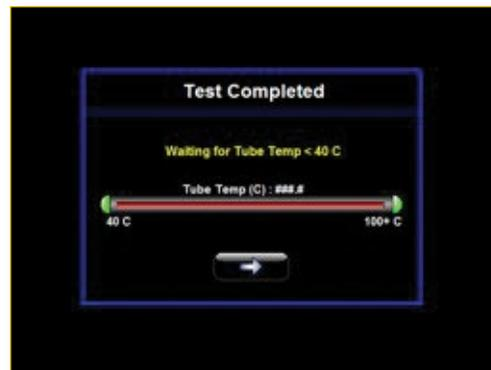

Figure 42 Test Completion Screen Waiting For Tube Temperature To Cool
- 10. Test Completion:** Tests either complete or they fail due to operator aborts, failure to meet or maintain operational requirements such as pressure loss, failure to maintain temperature or excessive bus bar temperature. Following test completion or failure, a safety screen appears halting program advancement until a safe handling temperature is reached at the heater tube thermocouple [Figure 42]. The Tube Temperature timer bar will disappear from the Test Complete screen when the unit has reached a safe temperature to proceed.